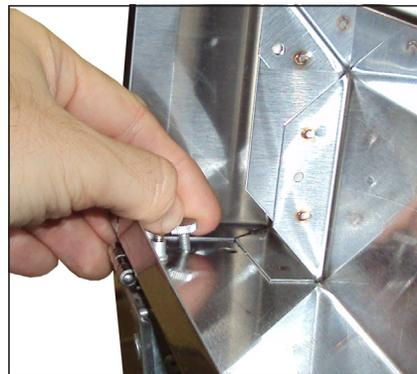

Fig. 2. Hold the rainshield open with the thumbscrews.
3. Remove the thumbscrews. Then, lift the rainshield open and thread the thumbscrews into their original locations. See fig. 2.